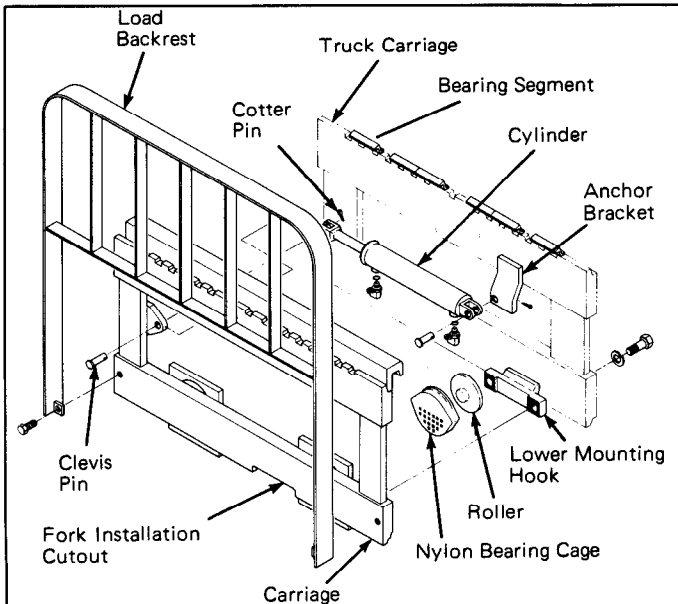

Figure 2. Sideshifter Assembly
Lower hooks binding the Sideshifter	Make sure truck carriage conforms to ITA dimension standards. See Figure 2. You may have to grind some excess material from hooks.
Perform the following procedures **at least** every 1000 hours of operation; more frequently in very abrasive environments. Refer to Figure 2.
8. Reconnect the cylinder rod to the Sideshifter with the clevis pin and a new cotter pin. See Figure 2.
- Install the cylinder onto the Sideshifter as shown in Figure 2, using new cotter pins to secure the clevis pins.